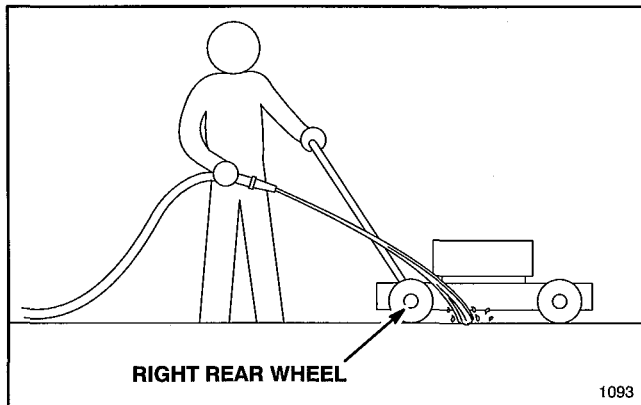

Figure 30
4. Hold the running garden hose at handle level and direct water to flow on ground just in front of right rear tire (Fig. 30). The rotating blade will draw water under the housing and wash out clippings. Let the water run for a few minutes or until you no longer see clippings being washed out from under housing.